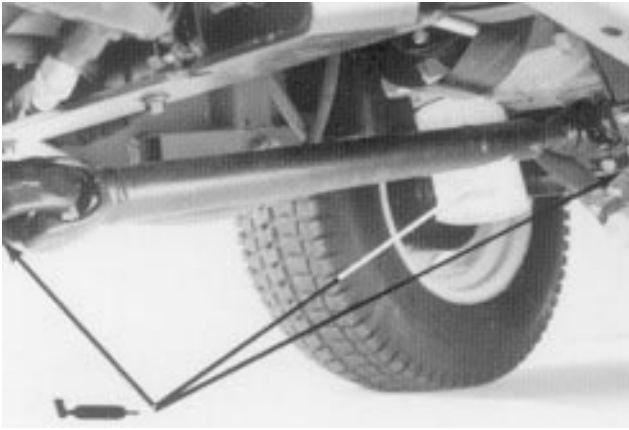
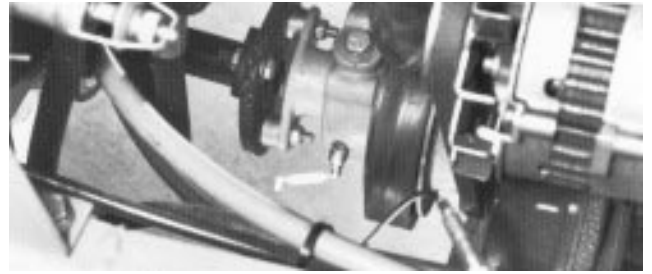

Figure 39
Figure 40
1. The traction unit bearings and bushings that must be lubricated are: PTO shaft and yokes (Fig. 34); lift arm pivots (Fig. 34); right and left push arm ball joints (Fig. 34); push arm pivot bushings (Fig. 35); PTO pivot housing blocks (Fig. 36); brake pivot bushings (Fig. 37); axle tie rod (2) (Fig. 38); axle pivot pin (Fig. 38); cylinder rod ends (2) (Fig. 38) drive shaft (3) (Fig. 39); clutch housing (Fig. 39) and engine output shaft bearing (Fig. 40). Also apply grease to both brake cables at the drive wheel and brake pedal ends.